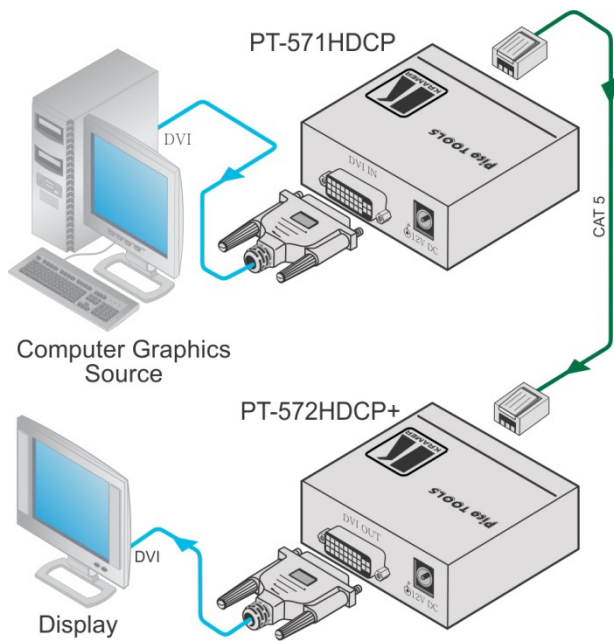

Figure 3: Connecting the PT-571HDCP/PT-572HDCP+ Transmitter/Receiver Pair
To connect the **PT-571HDCP** to the **PT-572HDCP+**, as illustrated in the example in Figure 3, do the following:
4. Connect the 12V DC power adapter to the power socket on the **PT-571HDCP** and/or the **PT-572HDCP+** and connect the adapter to the mains electricity (not shown in Figure 3).